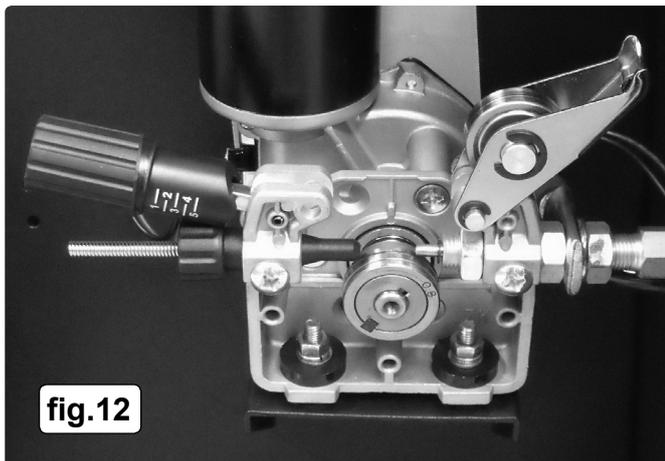

fig.12
- 6.1.3 When changing from  $\varnothing 0.8\text{mm}$  to  $\varnothing 1.0\text{mm}$  wire it will be necessary to reverse the position of the roller on its carrier. Firstly unscrew and remove the black knurled knob that holds the roller and its carrier in position (see fig.12).